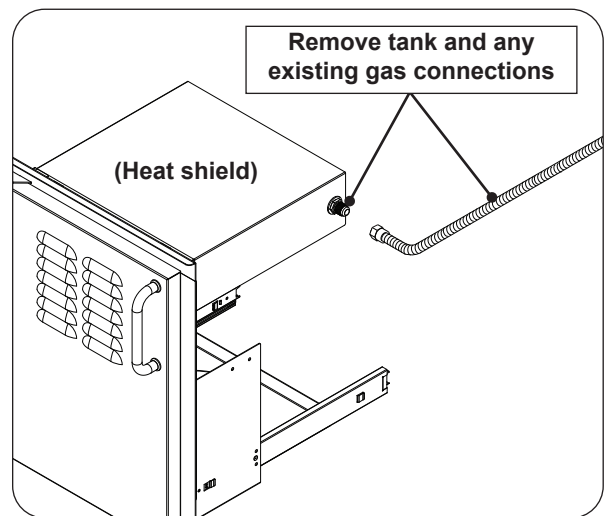

Fig. 2-1 Remove existing gas connections
1. Locate the door with tank holder. If the propane tank is currently installed, disconnect and remove the propane tank, and disconnect any adapters that are mounted to the heat shield side wall (as applicable). See Fig. 2-1.